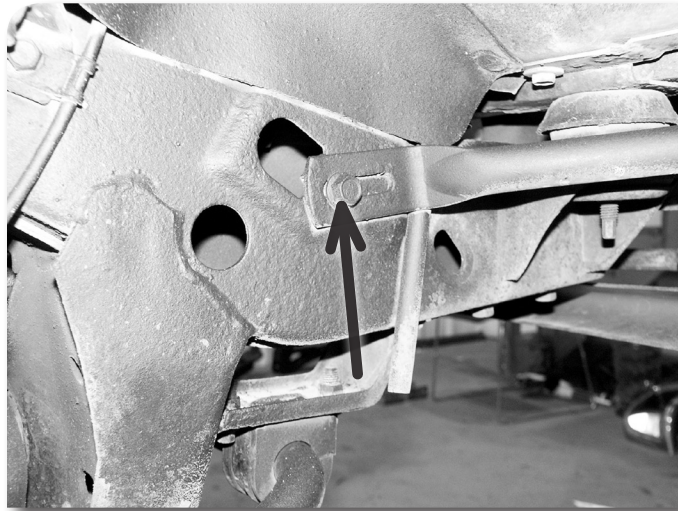

Figure 4
6. Remove the bolt mounting each of the outside bumper brackets to the frame and remove the brackets from the vehicle Figure 4. Save bolts.